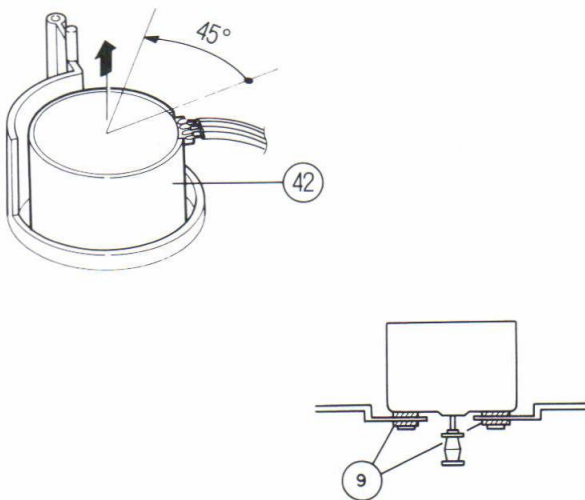

Fig. 12
Rotate the Phono Motor (42) 45° to the left. (Figure 12)